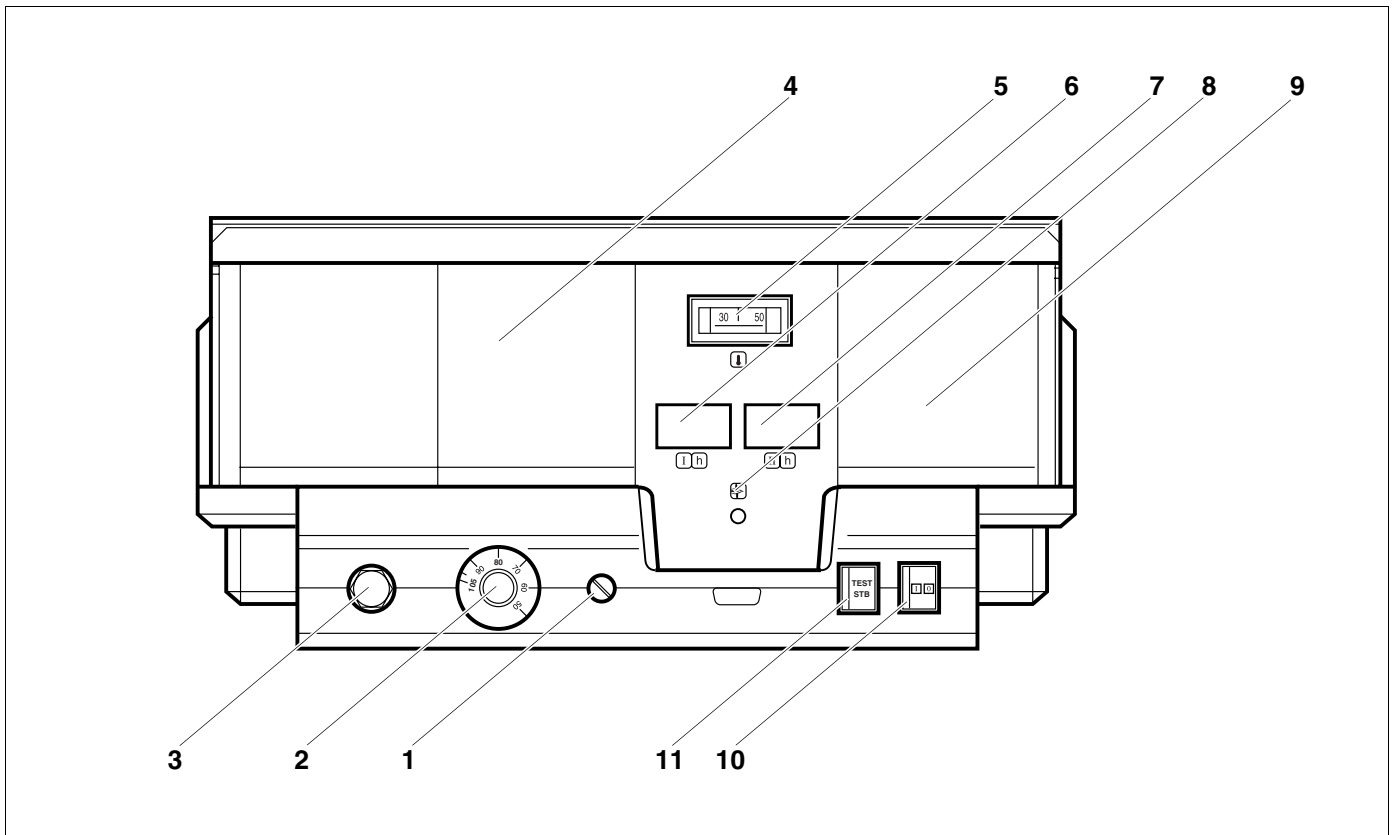
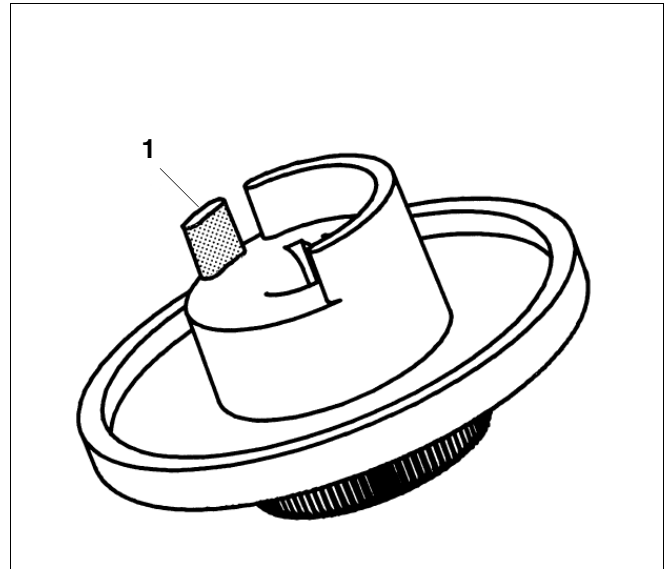

Fig. 1 Controls - Logamatic 4212 control unit
Fig. 5 Scaled selector
*Legend for Fig. 1*
The boiler water thermostat (Fig. 1, **Item 2**) must be set to a minimum of 80 °C, if the boiler is equipped with a boiler module ZM 427 or an external control unit.
The boiler water thermostat (Fig. 1, **Item 2**) is a two level thermostat for two-stage burner operation.
If the burner fault lamp illuminates (Fig. 1, **Item 8**), ask your local heating engineer to remedy the fault.
The STB button (Fig. 1, **Item 11**) is designed to test the high limit safety-cut-out (Fig. 1, **Item 3**), which must be carried out by your heating engineer.
- Push the STB button (Fig. 1, **Item 11**) and hold until the STB (Fig. 1, **Item 3**) has been reset.
- To reset the high limit safety cut-out (Fig. 1, **Item 3**) remove the domed nut on the STB and press the reset button located under the nut.
- Pull the setting knob (Fig. 5) off the boiler thermostat (Fig. 1, **Item 2**).
- Break off the end stop tabs (Fig. 5, **Item 1**).
- Push the setting knob back onto the boiler thermostat (Fig. 1, **Item 2**).